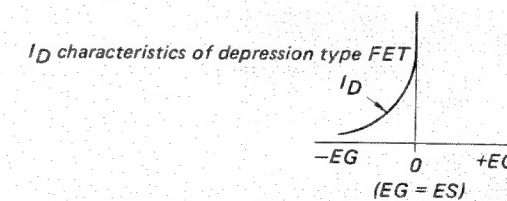

Fig. 13
- Q403 is a 2SK42 N-channel depression type FET. As shown in Fig. 13, $E_G = E_S$ when gate and source are connected, resulting in the flow of a constant current of less than 5mA. In other words, Q403 serves as the load resistance for Q402.